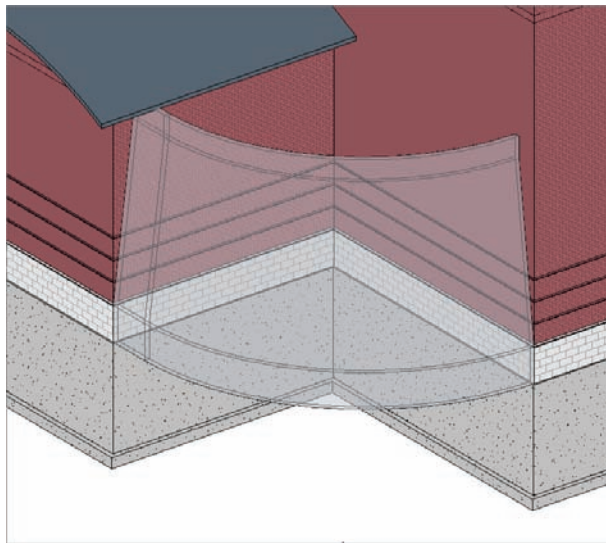

FIGURE 16.47 The finished mass
8. You should be looking at what is shown in Figure 16.47.